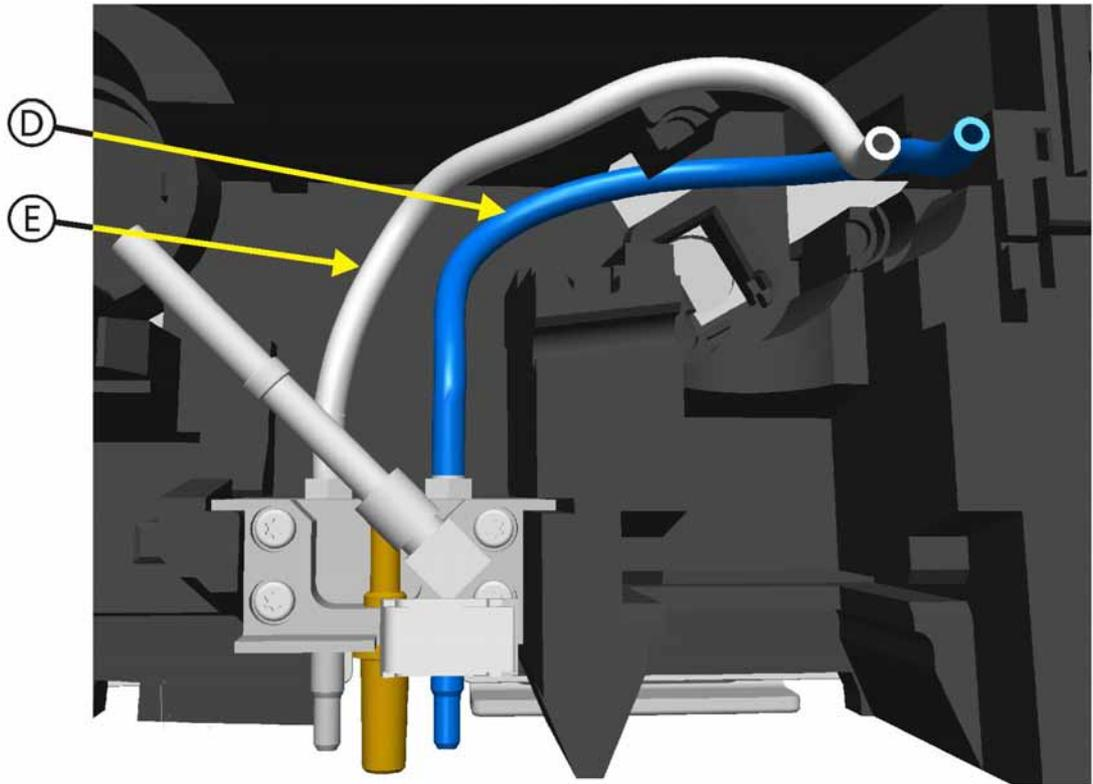

Figure 11-58. Front Panel Connector Block and Tubing Assembly, Step 2
- Figure 11-58, *Front Panel Connector Block and Tubing Assembly, Step 2*, on page 11-65